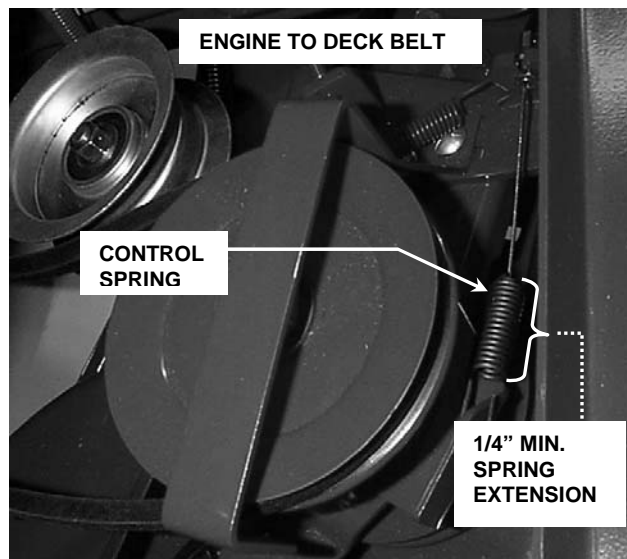

FIGURE 3.5
4. Check belt tension. Place cutting height control lever in mid setting. With engine "OFF", engage blade control lever. See Figure 3.5. The length of the control cable spring should extend a minimum of 1/4". If extension is less than 1/4", belt tension should be adjusted. Refer to Section "ENGINE TO DECK BELT ADJUSTMENT".